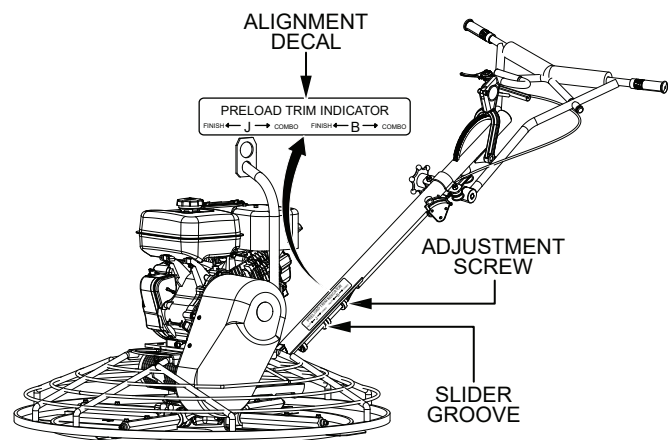

Figure 16. Spring Pre-Load Adjustment
- Locate the spring pre-load adjustment screw (Figure 16) on the underside of the handle tube.
- An alignment decal (Figure 16) is located on the side of the handle tube. Turn the adjustment screw until the slider groove aligns with the letter "**B**" on the decal.